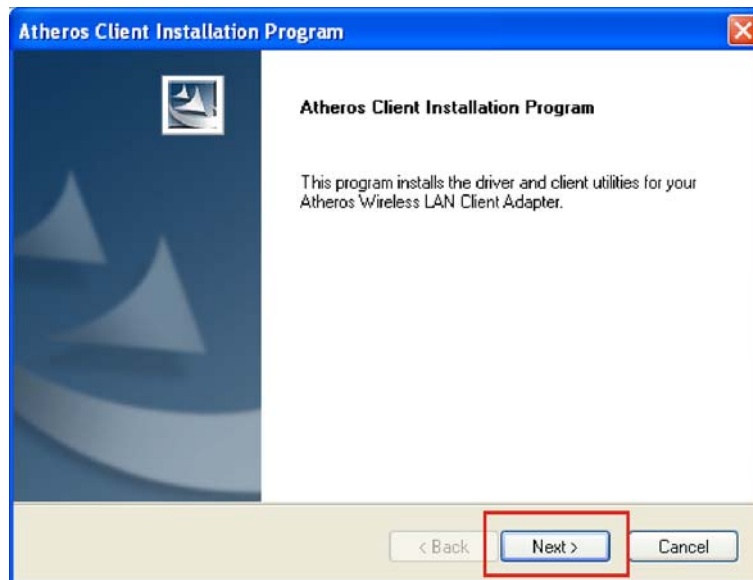

Figure 6-29: Installation Welcome Screen
Step 5: Click **NEXT** to continue the driver installation process (Figure 6-29).